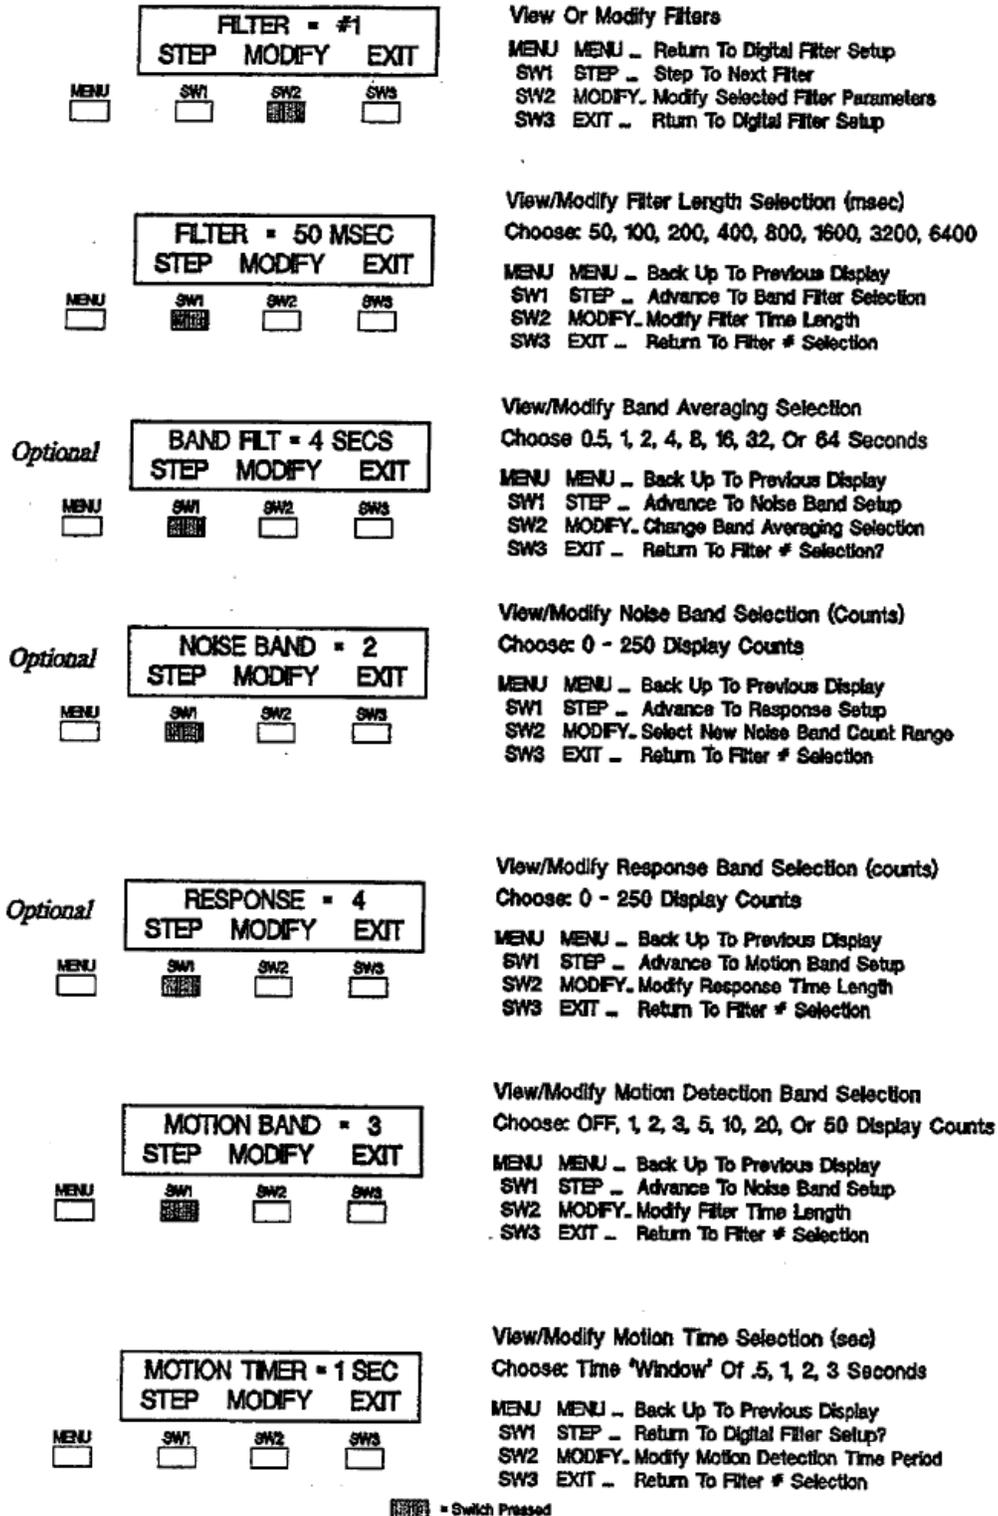

Figure 5-2. Digital Filter and Motion Setup.
Each filter component has adjustable parameters (Figure 5-2) so that every weigh system can be 'tuned' to its own unique environment.
Motion detection parameters are -entered along with filtering parameters (Figure 5-2). Motion
- 1). Turn the filter off (select 50 msec filter, Figure 5-2).